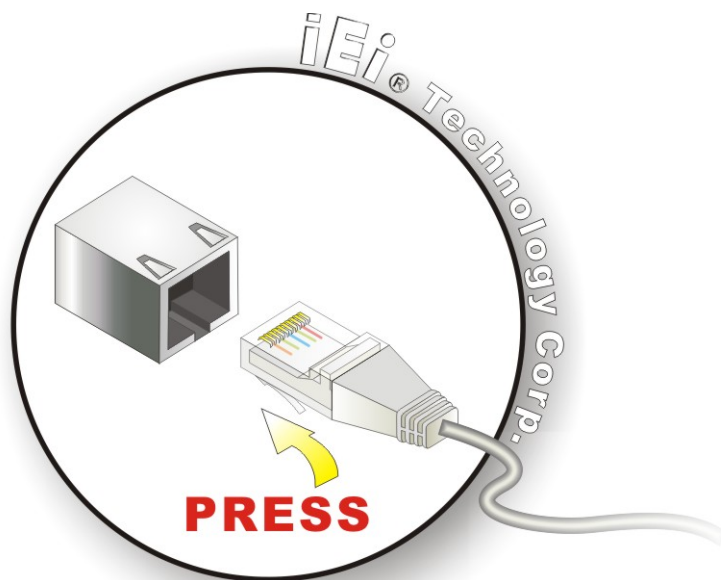

Figure 4-10: LAN Connection
Step 7: **Align the connectors.** Align the RJ-45 connector on the LAN cable with one of the RJ-45 connectors on the WAFER-PV-D4251/D5251/N4551. See Figure 4-10.